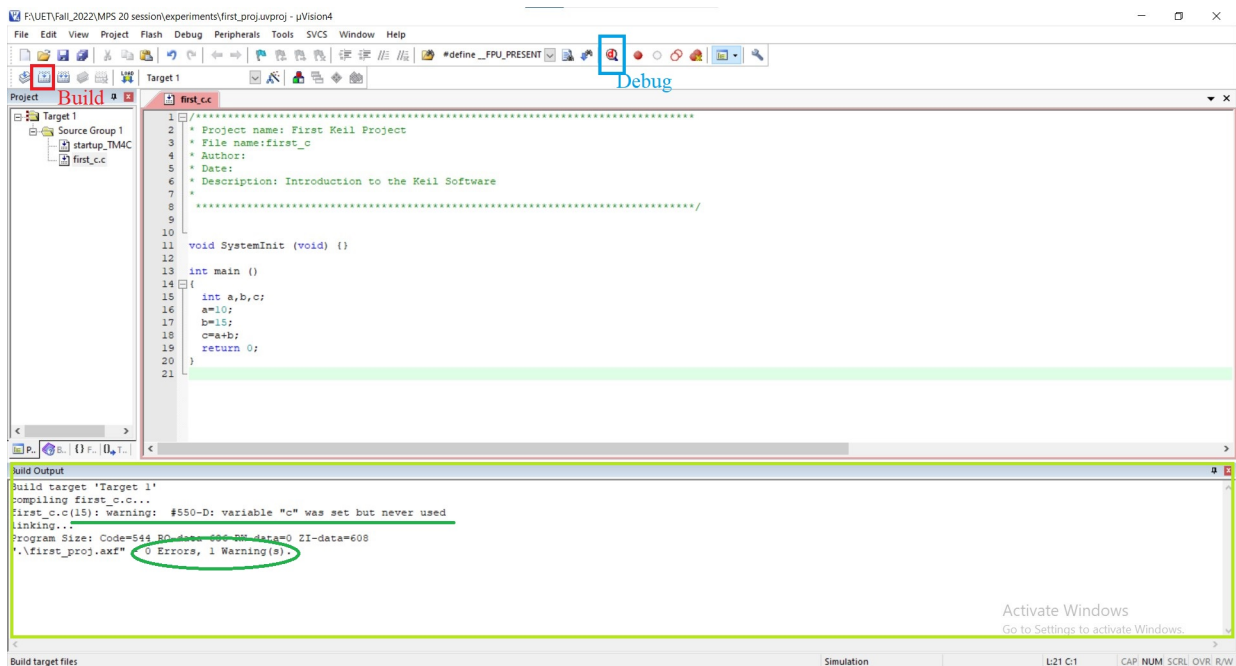

Figure 1.15: Build the target and enter Debug Mode
8. After writing your code, click *Build* to build the target files. *Build Output* window will provide information about *errors and warnings* in your code. After successful build, go into the debugger by clicking *Debug* (Figure 1.15).